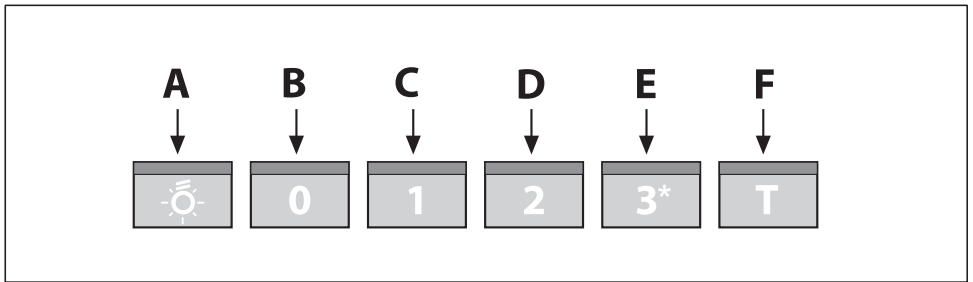

Fig.14
• **Bright Control (Fig.14)** the key symbols are explained below: